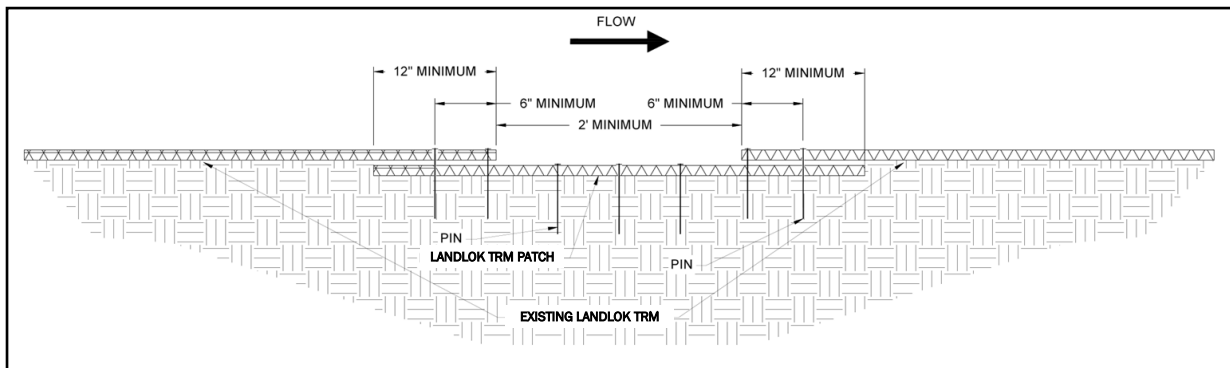
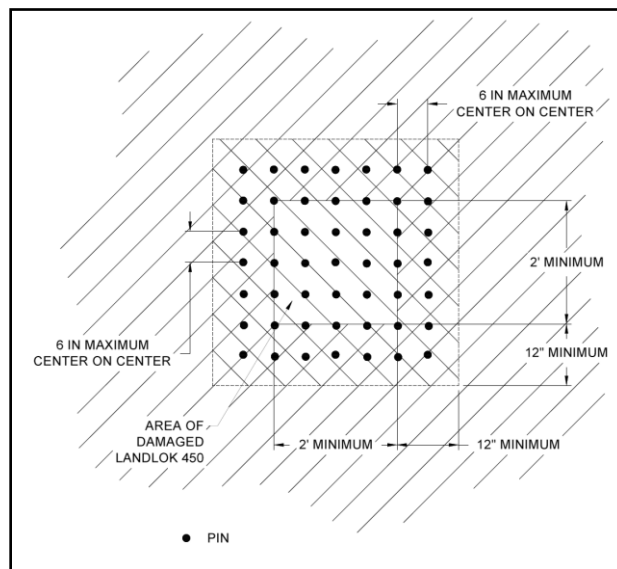

Figure 22: LANDLOK Patch Cross Section
Figure 23: LANDLOK Patch Plan View
3. To repair LANDLOK, cut out and remove damaged areas in a square configuration a minimum size of 2 ft by 2 ft. Remove all vegetation and debris atop of LANDLOK. Loosen the top 1 to 2 in of soil in the patch area then seed. The subgrade of area to be patched shall be prepared to be smooth and uniform and transition smoothly into the in-situ area. Cut a square LANDLOK patch a minimum of 12 in greater than the damaged area for all four sides of the patch. Overlap the patch area in all directions a minimum of 12 in. The patch overlaps shall be tucked under the existing damaged LANDLOK material (Figure 22 and Figure 23).